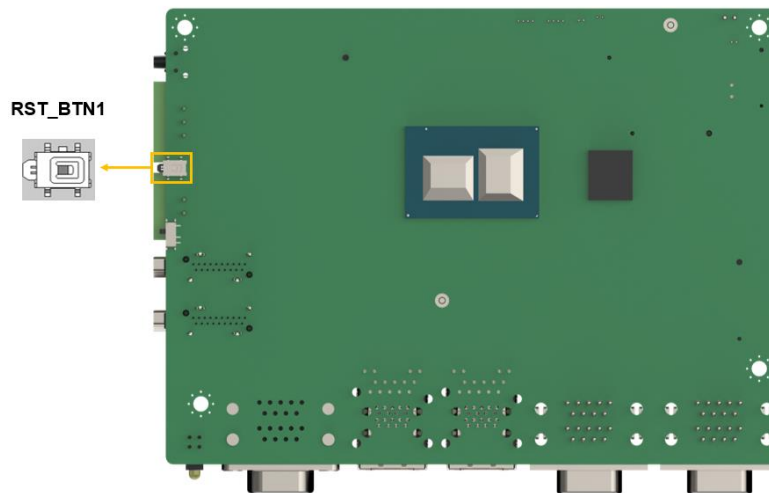

Figure 4-4: Reset Button Location
- CN Location:** See **Figure 4-4**